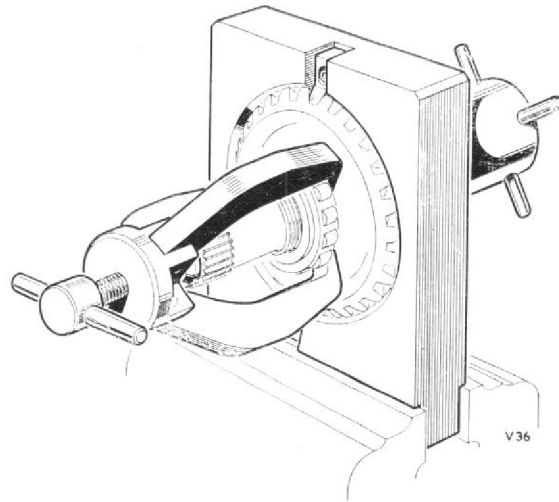

Fig. 8. Vice block T.74910 and extractor T.74926, for removing roller inner race from horizontal drive shaft.
T.74926 in the bore of the gear shank and the claws in the slots machined in the gear; draw off the roller inner race, Fig. 8.